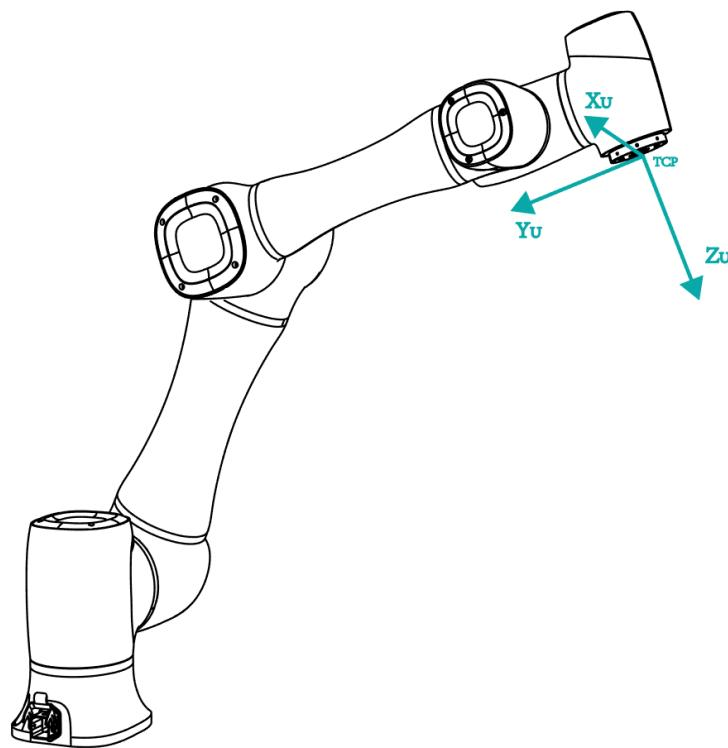

Figure 3.4 Point
- Point: move TCP to any point **A** to create origin, and create user coordinate system according to the default tool coordinate system As shown in Figure 3.4.